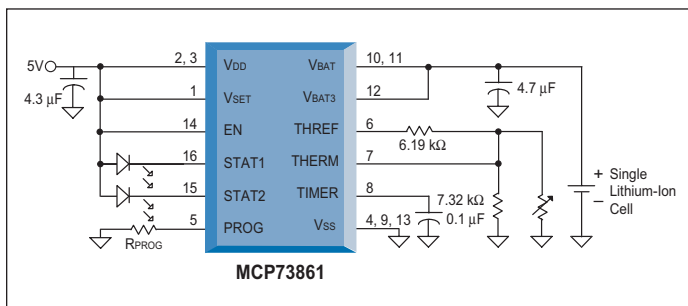

Figure 4: Typical, Fully Integrated, Linear Solution.
Figure 4 depicts a fully integrated, linear solution utilizing Microchip’s MCP73861. The MCP73861 incorporates all the features of the MCP73843 along with charge current sensing, the pass transistor, reverse discharge protection and cell temperature monitoring.
Figure 4 provides a solution to this problem. The output of the amplifier is raised by 300 mV (from ground) to ensure that the amplifier is operating in its linear region. A level-shift network, consisting of  $R_1$ ,  $R_2$  and  $A_2$ , achieves this goal.
**Figure 4:**  $R_1$  and  $R_2$ , in conjunction with  $V_{DD}$ , form a voltage divider. The output of this divider is 300 mV. A buffer,  $A_2$ , isolates the impedance of  $R_1$  and  $R_2$  while connecting to the anode of the photo sensor. This circuit configuration creates a 300 mV level shift of the signal to the output of the transimpedance amplifier ( $A_1$ ). The A/D converter also has this level shift applied to its inputs.